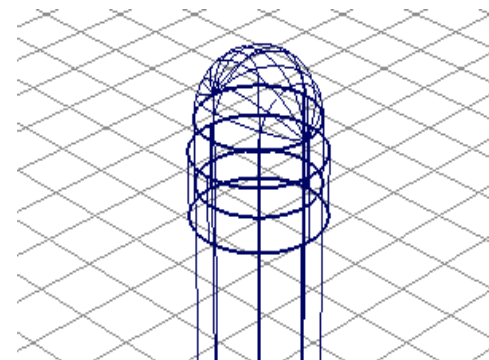

Figure 2-124 Model after rotating the top part of the eraser about X-axis
2. Enter **90, 0, 0** in the promptline and press ENTER; the hemispherical top part is rotated about the X-axis, as shown in Figure 2-124.